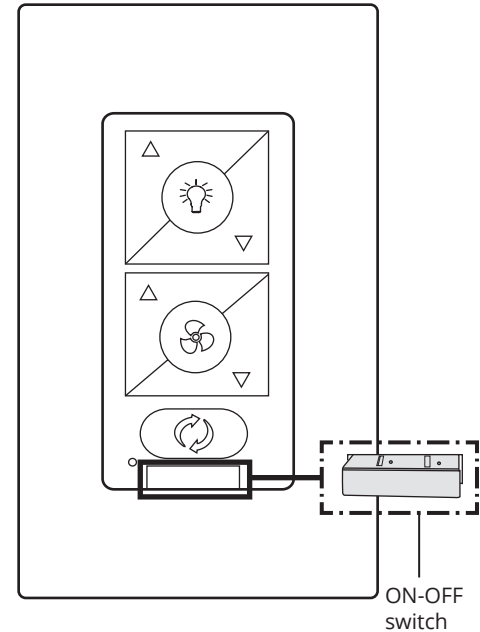

FIGURE 19
2. Raise and hold the LED luminaire module close to the adapter plate and proceed to secure the wire connections. Male to male and female to female. (Fig. 19)